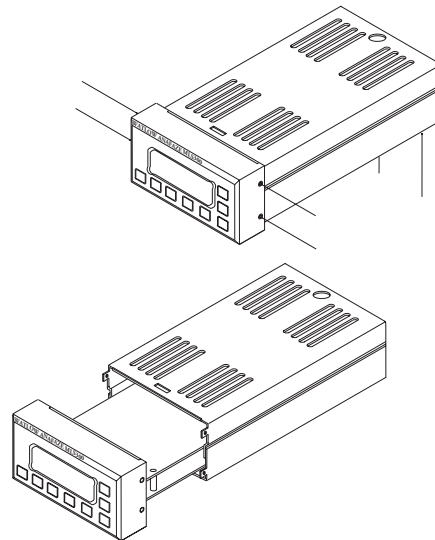
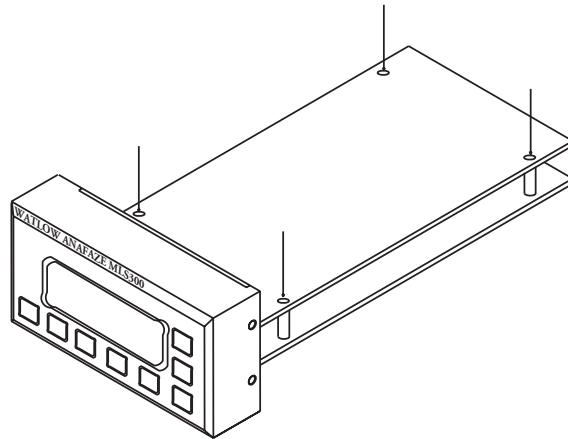

Figure 9.1 *Removal of Electronics Assembly from Case*
Figure 9.2 *Screws Locations on PC Board*
4. Remove the electronics assembly from the case, as shown in *Figure 9.1*.
board (processor board). *Figure 9.2* shows the screws to remove:
4. Remove the electronics assembly from the case, as shown in *Figure 9.1 on page 204*.
5. Move jumpers **JU2** and **JU4** on the upper PC board to the **B** position for 485 communications, or to the **A** position for 232 communications. Refer to *Figure 9.1 on page 204* and *Figure 9.2 on page 205*.